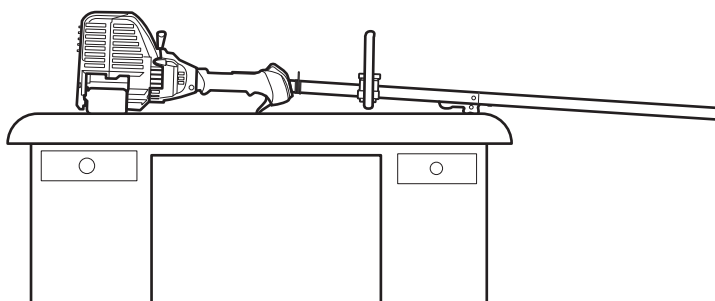

Fig. 22
2. **Set the unit on a flat, level surface**, such as a workbench or table. The cutting head shield should hang over the edge so that the engine is level (Fig. 22).